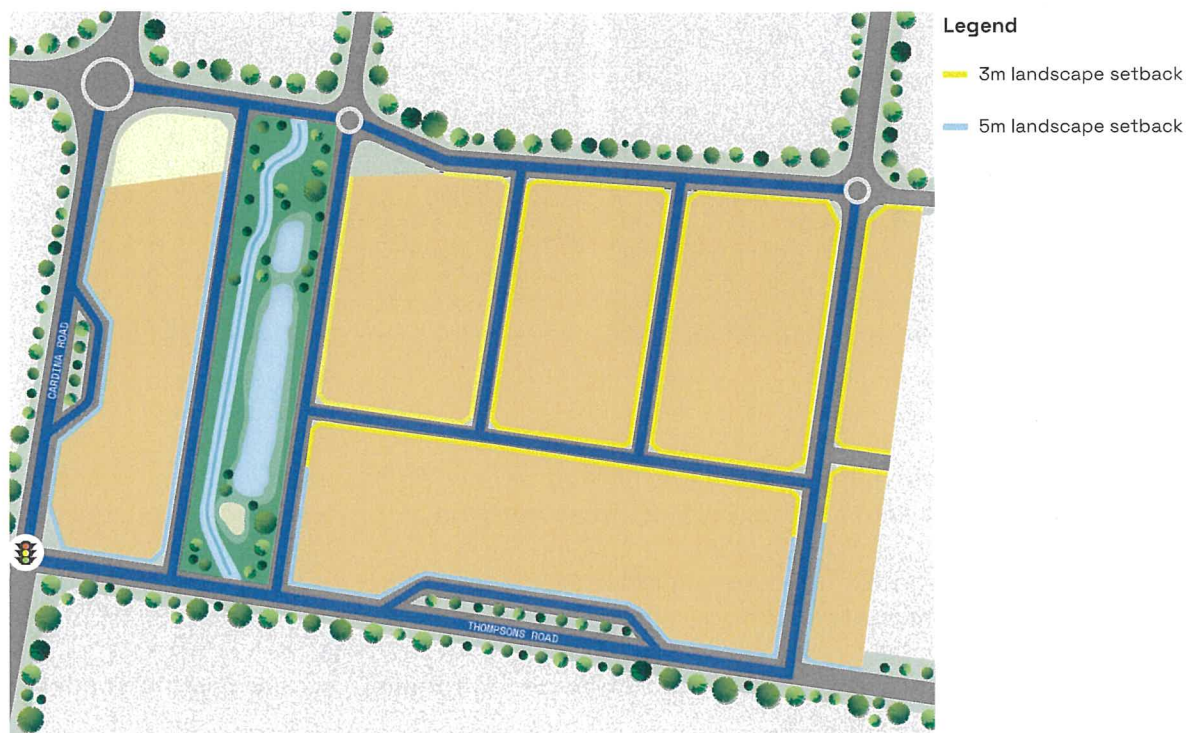

Figure 5: Landscape Setback Plan
Each site must provide a minimum landscape zone to all street frontages in accordance with Figure 5. This is a minimum requirement; additional landscaping is encouraged.
- Landscaping in side and rear setbacks **must** be provided if the side or rear of the site adjoins a street or is visible from key public viewing areas such as open space reserves in accordance with Figure 5: Landscape Setback Plan.